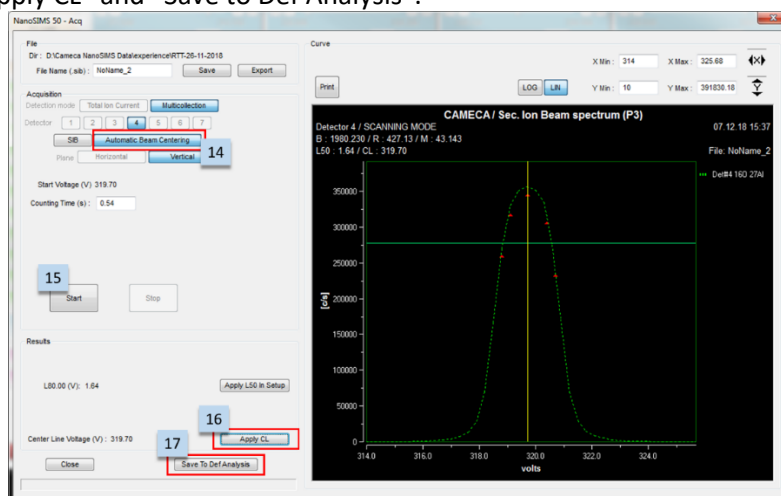

Figure 410: automatic P3 centering
- g. Activate the automated Auto beam centering with P3 for the upcoming acquisition by selecting “**Automatic Beam Centering**” and launch another **P3 scan** (Figure 410). Click on “Apply CL” and “Save to Def Analysis”.